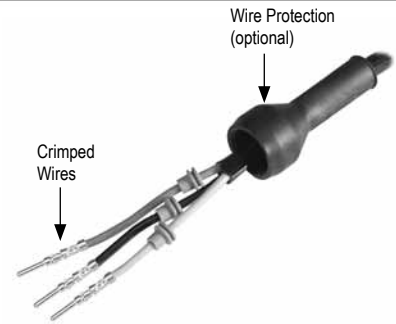

Figure 2
3. Insert the wire into the crimp barrel to the full depth. Visually verify that the wire is inserted fully by observing the strands through the inspection hole. All strands must be inserted into the barrel. Completed crimp wires are shown in Figure 2.